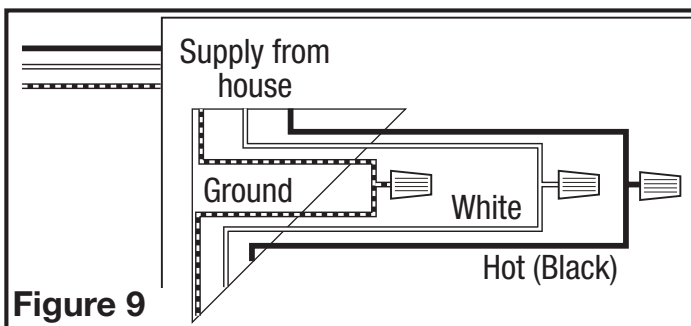

Figure 9
3. From where you have chosen to access the fan's junction box, connect the White wire from the house to the White wire from the fan's receptacle. Connect the Black wire from the wall switch to the Black wire from the fan's receptacle. Connect the ground wire from the house to the Green wire from the fan's receptacle (**Figure 9**). Use approved methods for all connections.